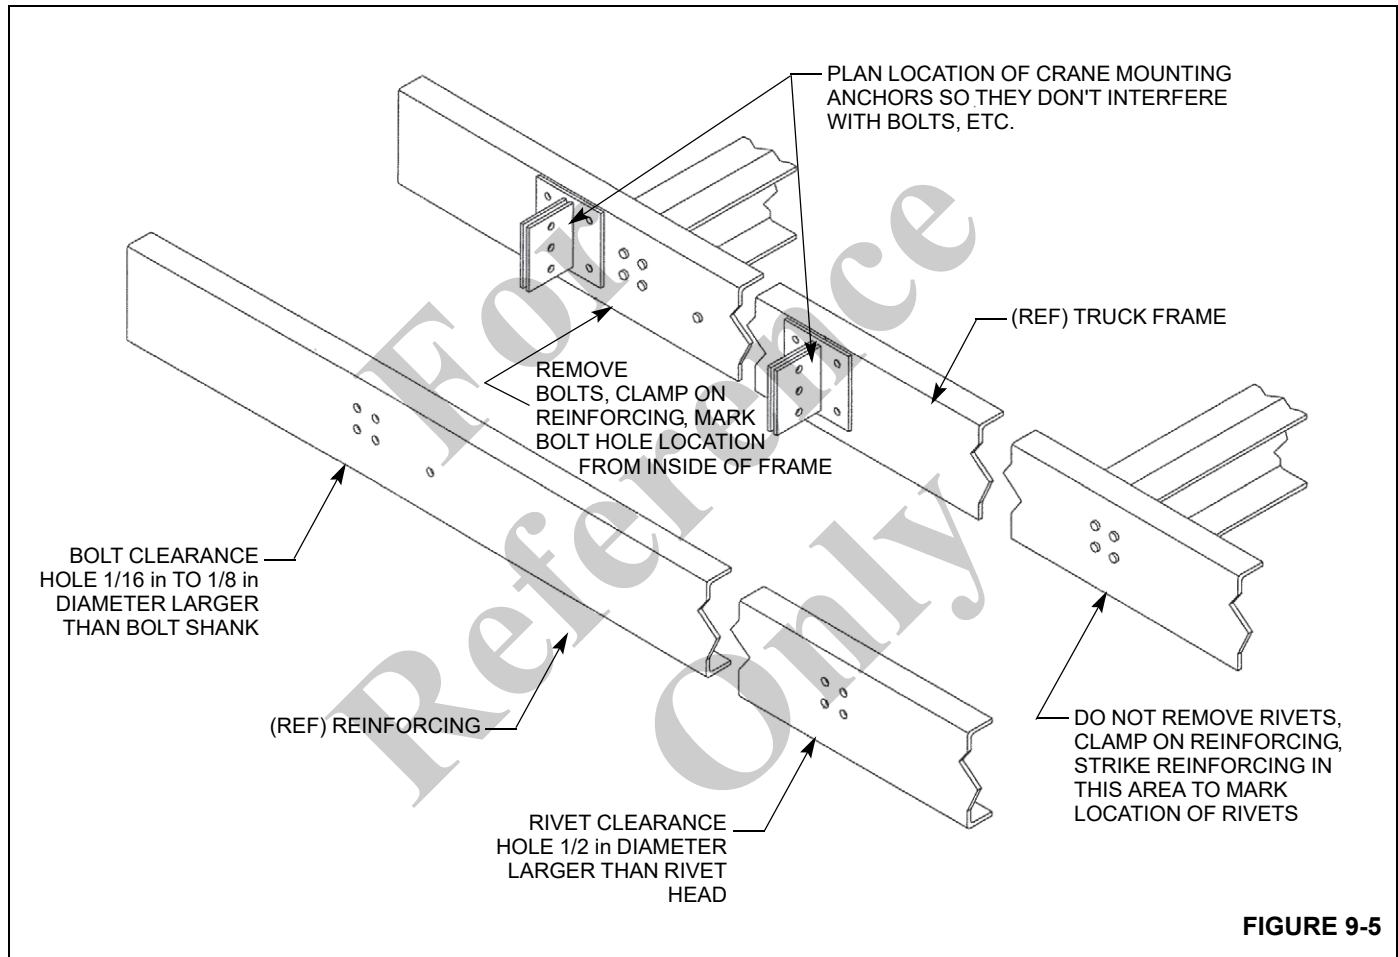

FIGURE 9-5
3. If rivets are used to secure truck frame cross members. Place the reinforcing on the truck frame and clamp in place. See Figure 9-5.
Remove the reinforcing and drill or torch cut clearance holes for bolts or rivets. See Figure 9-5.